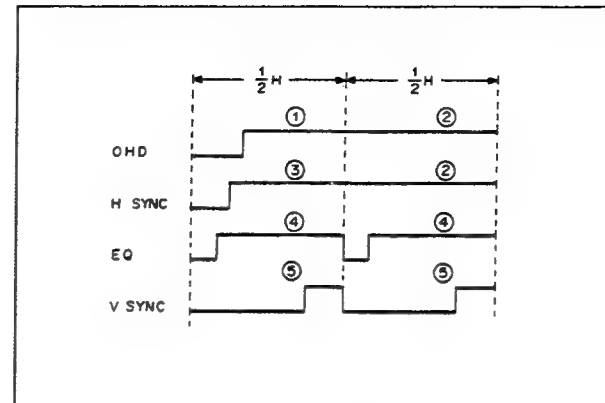

Fig. 7-2-9. Sync Pattern (TG-28 Board)
ICK16 outputs the sync pattern shown by Fig. 7-2-9 in accordance with the output of counter ICL16 which is initialized every H/2 based on the carry output. "MON H" is created from (1) and (2) in the sync pattern; "SYNC" is created from (2) through (5).